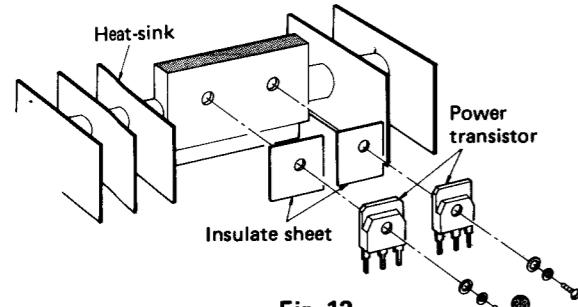

Fig. 12
3. Remove the 2 setscrews (38 , 39 in Fig. 12) of the power transistor.
4. Remove the 2 setscrews (⑧ ~ ⑨ in Fig. 12) of the power transistor.